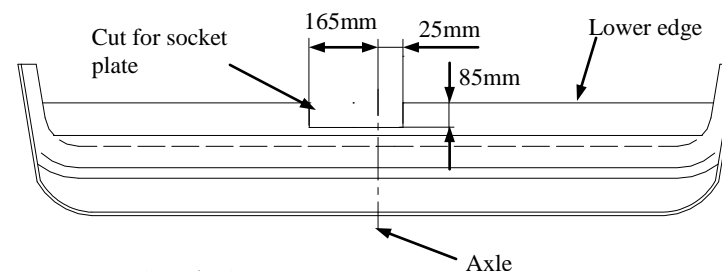

Fig. 2 Bumper cut out (top view)
3. Slide the main bar (pos. 1) into the chassis and then fix with M10x40mm bolts (pos. 5) and big washers  $\varnothing 30 \times \varnothing 10,5 \times 2,5$ mm (pos. 8) from the towbar equipment. Choose holes depend on car type.
5. Position the ball of towbar fix with M12x70mm bolts (pos. 4) from the towbar accessories.
6. Fix the socket plate (pos. 3) as shown on the drawing.
7. Cut the bumper according to figure 2 and mount it to the car.